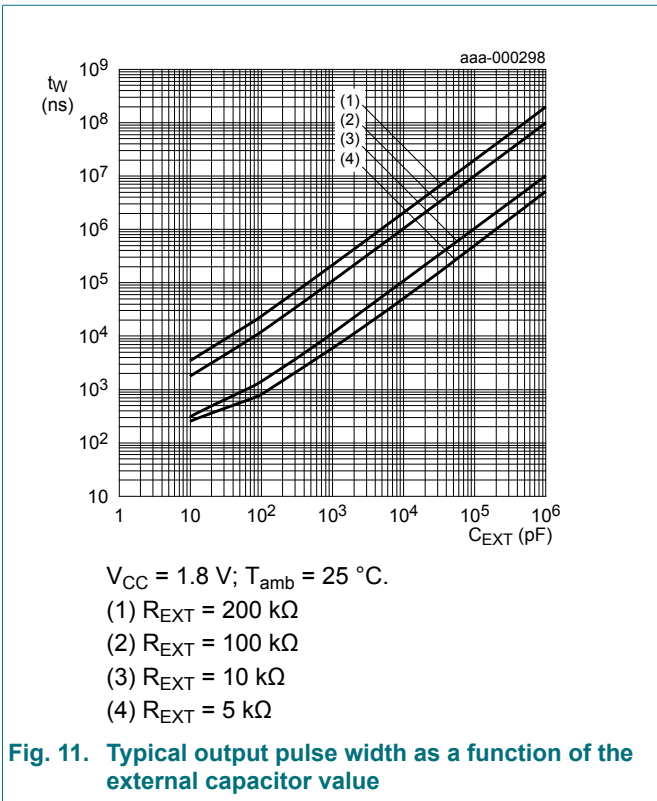

Fig. 11. Typical output pulse width as a function of the external capacitor value
- [3] For other R_{EXT} and C_{EXT} combinations see Fig. 11, Fig. 12 and Fig. 13. If C_{EXT} > 10 nF, the next formula is valid.